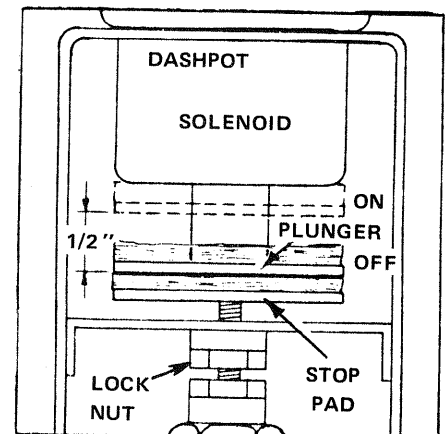

FIGURE 9-42 Stroke Measurement.
- F. Read the CAUTION under Point D above. Verify that the Stroke of the Solenoid is 1/2" (See FIGURE 9-42). Adjust the stroke if necessary, by loosening the Lock Nut at the bottom of the Stop Pad, turning the Stop Pad CLOCKWISE to SHORTEN or COUNTERCLOCKWISE to LENGTHEN the stroke, then securing the Lock Nut when the stroke is adjusted. (See FIGURE 9-42). Refer to the NOTE ON PAGE 145.